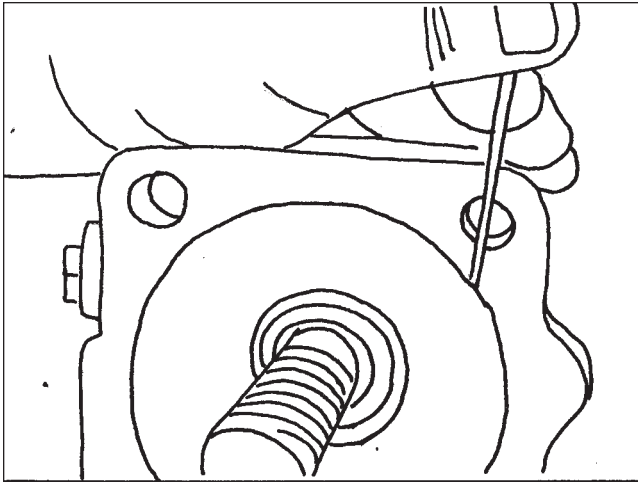

Figure 123
4. Install a new seal ring on the bearing cap and actuating shaft assembly (**Figure 123**).